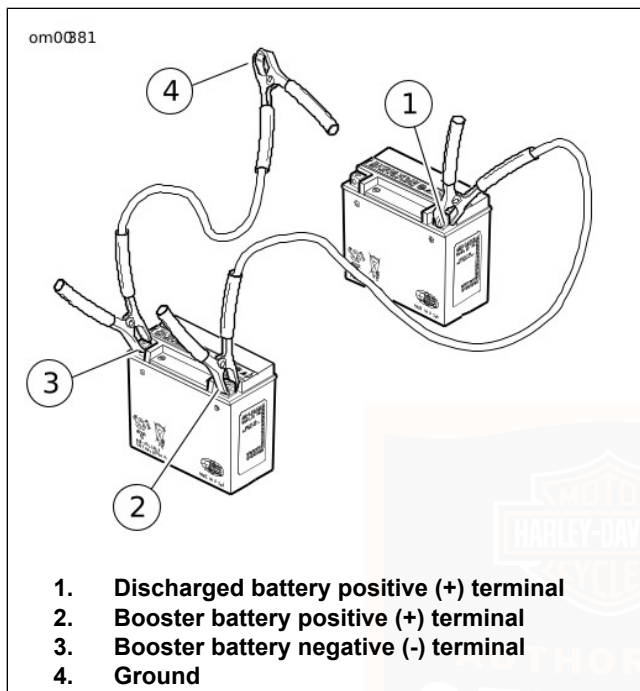

Figure 78. Jump Start Cable Connections
1. See Figure 78. Connect one end of a jumper cable to the DISCHARGED battery positive (+) terminal (1).
2. Connect the other end of the same cable to the BOOSTER battery positive (+) terminal (2).